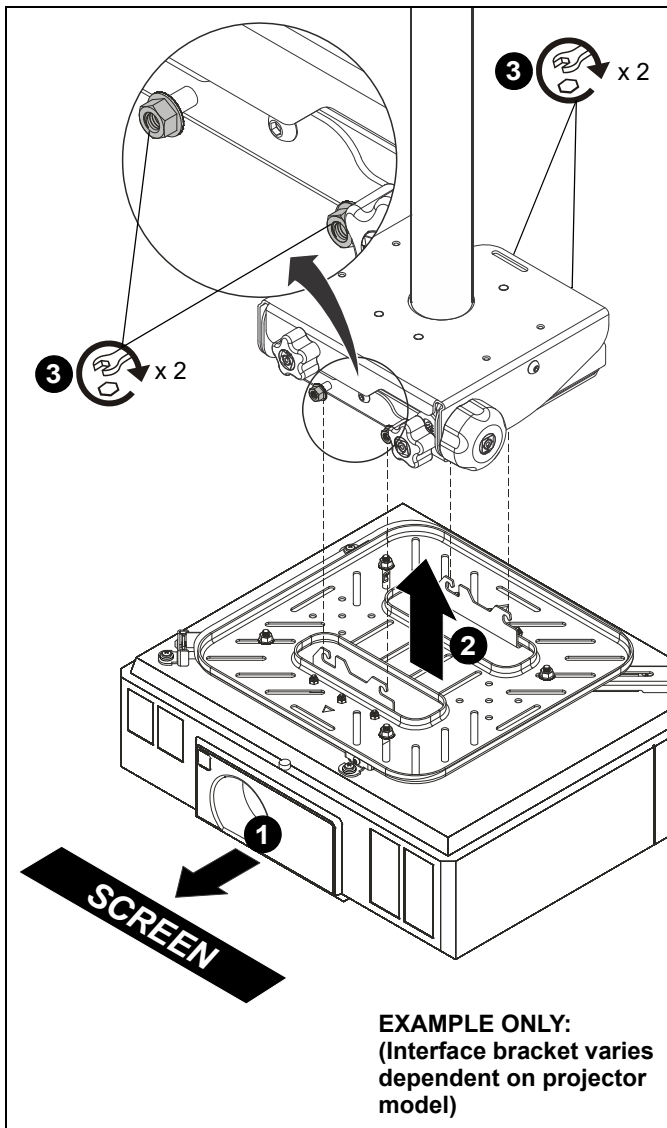

Figure 3
1. Orient projector with attached interface bracket so that it is square to the screen. (See Figure 3)
2. Lift the projector and install it behind the flange nuts on the four studs extending from the VCT housing. (See Figure 3)
3. Tighten the flange nuts on the four studs. (See Figure 3)